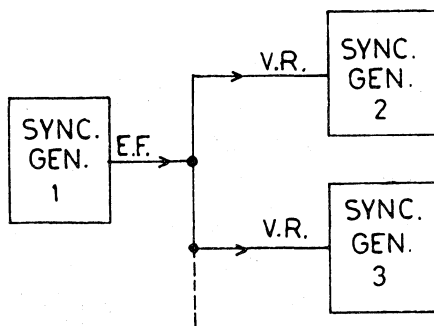

Fig. 4 Field Synchronisation using Vertical Reset
**Field Synchronisation** (Fig. 4) is achieved by driving the Vertical Reset inputs of the driven generators directly from the Even Field output of the first generator (the Line drive outputs should already be in phase). This resets the generators to the start of the first field ( $T = 0$ , start of broad pulses.)